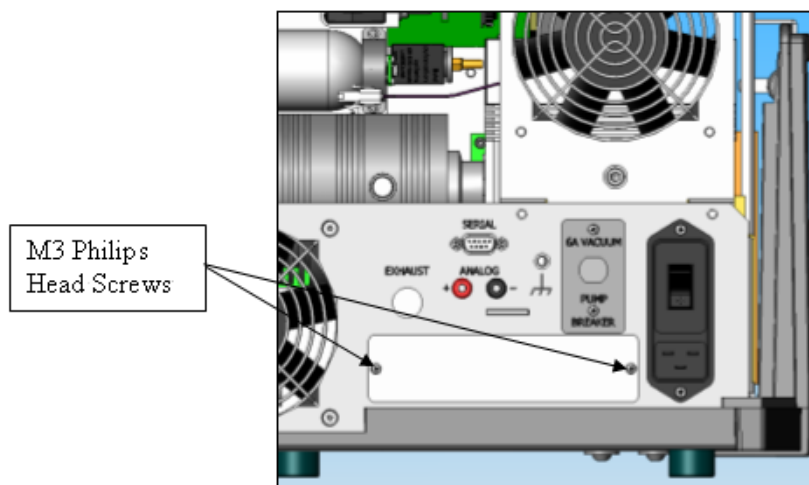

Figure 2: Back Plate with Screws
5. Remove the two back plate Philips head screws w/lock washers (Figure 2: Back Plate with Screws) and pull the blank back plate off and discard.
- Reinstall the two back plate Philips head screws w/lock washers (Figure 2: Back Plate with Screws).